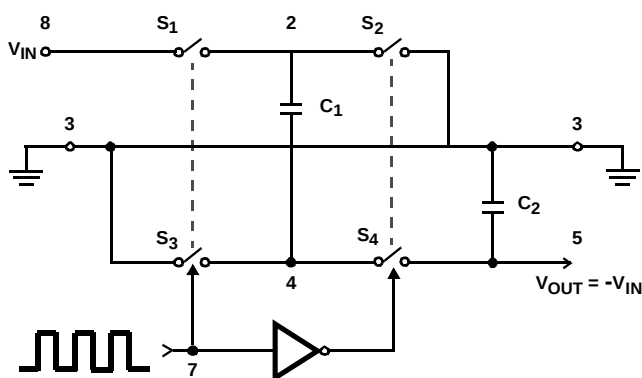
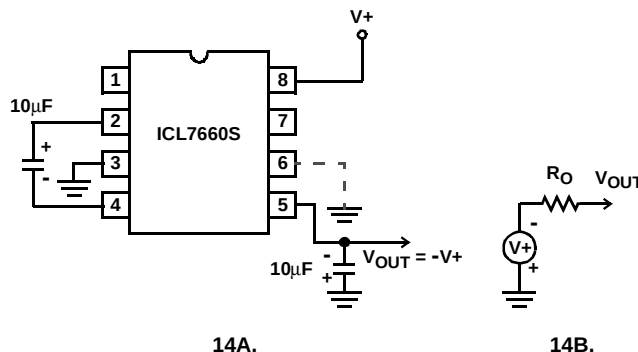
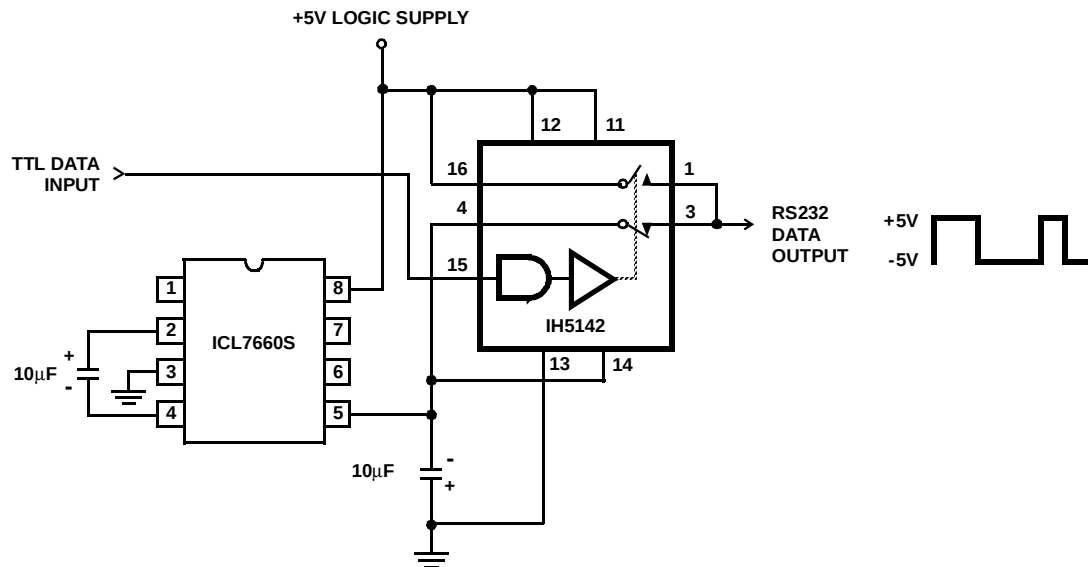

FIGURE 13. IDEALIZED NEGATIVE VOLTAGE CONVERTER
FIGURE 14. SIMPLE NEGATIVE CONVERTER AND ITS OUTPUT EQUIVALENT
FIGURE 21. RS232 LEVELS FROM A SINGLE 5V SUPPLY
The ICL7660S contains all the necessary circuitry to complete a negative voltage converter, with the exception of 2 external capacitors which may be inexpensive 10 μ F polarized electrolytic types. The mode of operation of the device may be best understood by considering Figure 13, which shows an idealized negative voltage converter.
In the ICL7660S, the 4 switches of Figure 13 are MOS power switches; S_1 is a P-Channel devices and S_2 , S_3 and S_4 are N-Channel devices. The main difficulty with this approach is that in integrating the switches, the substrates of
where V_1 and V_2 are the voltages on C_1 during the pump and transfer cycles. If the impedances of C_1 and C_2 are relatively high at the pump frequency (refer to Figure 13) compared to the value of R_L , there will be substantial difference in the voltages V_1 and V_2 . Therefore it is not only desirable to make C_2 as large as possible to eliminate output voltage ripple, but also to employ a correspondingly large value for C_1 in order to achieve maximum efficiency of operation.
The majority of applications will undoubtedly utilize the ICL7660S for generation of negative supply voltages. Figure 14 shows typical connections to provide a negative supply where a positive supply of +1.5V to +12V is available. Keep in mind that pin 6 (LV) is tied to the supply negative (GND) for supply voltage below 3.5V.
The output characteristics of the circuit in Figure 14 can be approximated by an ideal voltage source in series with a resistance as shown in Figure 14B. The voltage source has a value of $-(V^+)$. The output impedance (R_O) is a function of the ON resistance of the internal MOS switches (shown in Figure 13), the switching frequency, the value of C_1 and C_2 , and the ESR (equivalent series resistance) of C_1 and C_2 . A good first order approximation for R_O is:
Figure 21 combines the functions shown in Figure 14 and Figure 20 to provide negative voltage conversion and positive voltage doubling simultaneously. This approach would be, for example, suitable for generating +9V and -5V from an existing +5V supply. In this instance capacitors C_1 and C_3 perform the pump and reservoir functions respectively for the generation of the negative voltage, while capacitors C_2 and C_4 are pump and reservoir respectively for the doubled positive voltage. There is a penalty in this configuration which combines both functions, however, in that the source impedances of the generated supplies will be somewhat higher due to the finite impedance of the common charge pump driver at pin 2 of the device.